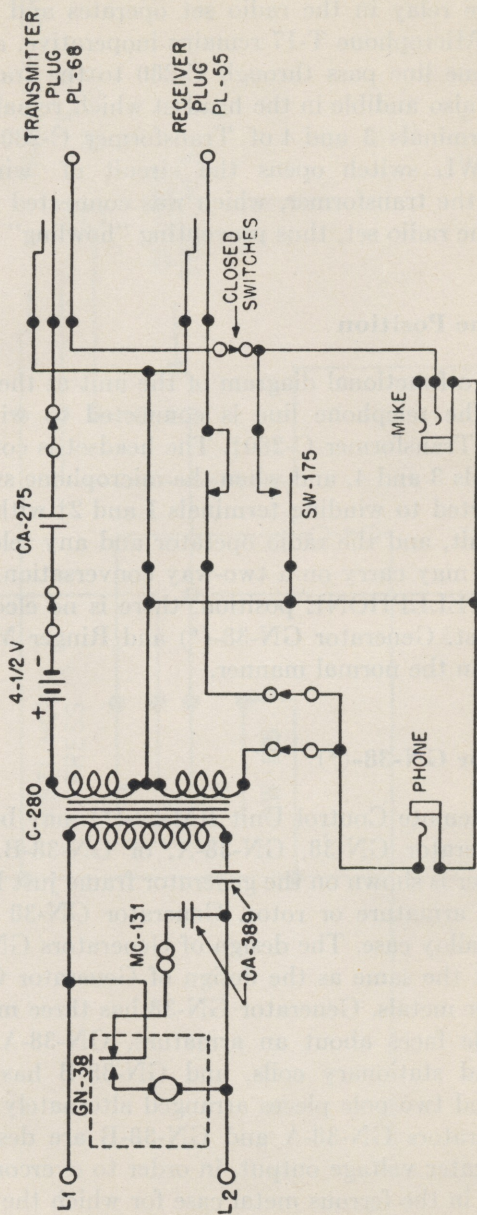

FIGURE 8. REMOTE CONTROL UNIT RM-29-(*)
- (3) To receive, the radio receiver is turned on and the signals are heard in the headset. While receiving, don't press the microphone "press-to-talk" switch.
- (4) When a call is made from any telephone on the line while Switch SW-185 is at RADIO, the ringer in Remote Control Unit RM-29-(* will operate. To answer, throw Switch SW-185 to TELEPHONE, and press the microphone switch.
- b. THROUGH.—When the radio set is to be operated from a Telephone EE-8-(* (Fig. 8):
- (1) Set Switch SW-185 to THROUGH.
- (2) Monitor all signals passing through the line, both from the radio receiver to the line, and from the line to the radio transmitter. With Switch SW-185 at THROUGH, the operator at Remote Control Unit RM-29-(* can hear all signals, but cannot transmit.
- (3) Press the ANTI-HOWL PRESS Switch SW-175 to permit transmission to go through from Telephone EE-8-(* to the radio set. When transmission ceases from Telephone EE-8-(*), release the ANTI-HOWL PRESS Switch SW-175, to permit signals to go through from the radio set to the telephone.
- (4) If a call is made from any telephone on the line while Switch SW-185 is at THROUGH, the ringer in Remote Control Unit RM-29-(* will operate. To answer, throw Switch SW-185 to TELEPHONE, and press the microphone switch.
Figure 8 is a functional diagram of the unit at the THROUGH position. The telephone line is connected to winding terminals 5 and 7 of Transformer C-280†; headset and receiver output is connected to terminals 3 and 4 and microphone and transmitter audio input is connected to terminals 1 and 2. Generator GN-38-(*) and Ringer MC-131 operate in normal manner. With the ANTI-HOWL Switch SW-175 *up*, the headset is connected to the output of the audio amplifier of the receiver, Microphone T-17 is inoperative, and signals from the receiver pass through Transformer